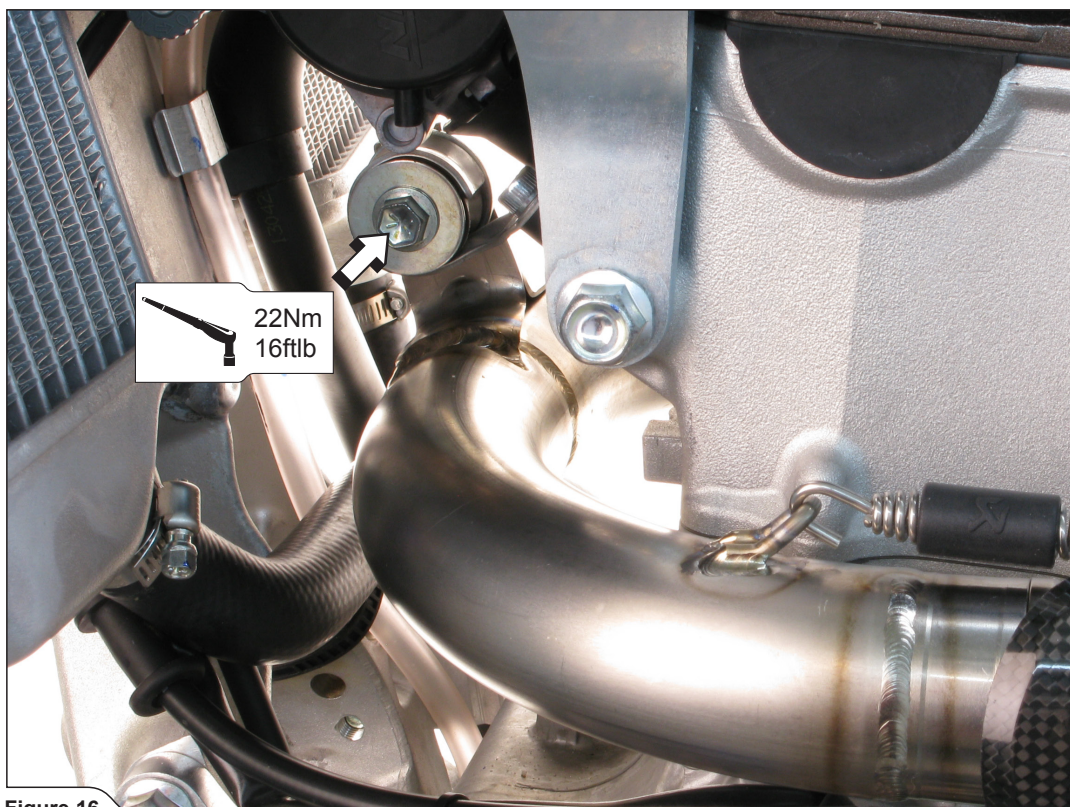

Figure 16
9. Align the header pipe and link pipe in respect to the engine (make sure they don't touch water houses or any other part of the motorcycle), tighten the link pipe's bracket bolt and header pipe's nuts to the specified torque (Figure 16, 17).